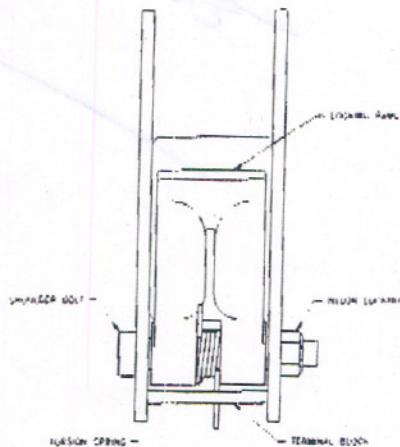

Figure 2
4. Install the locking pawl and torsion spring on the idler column as shown in Figure 2.